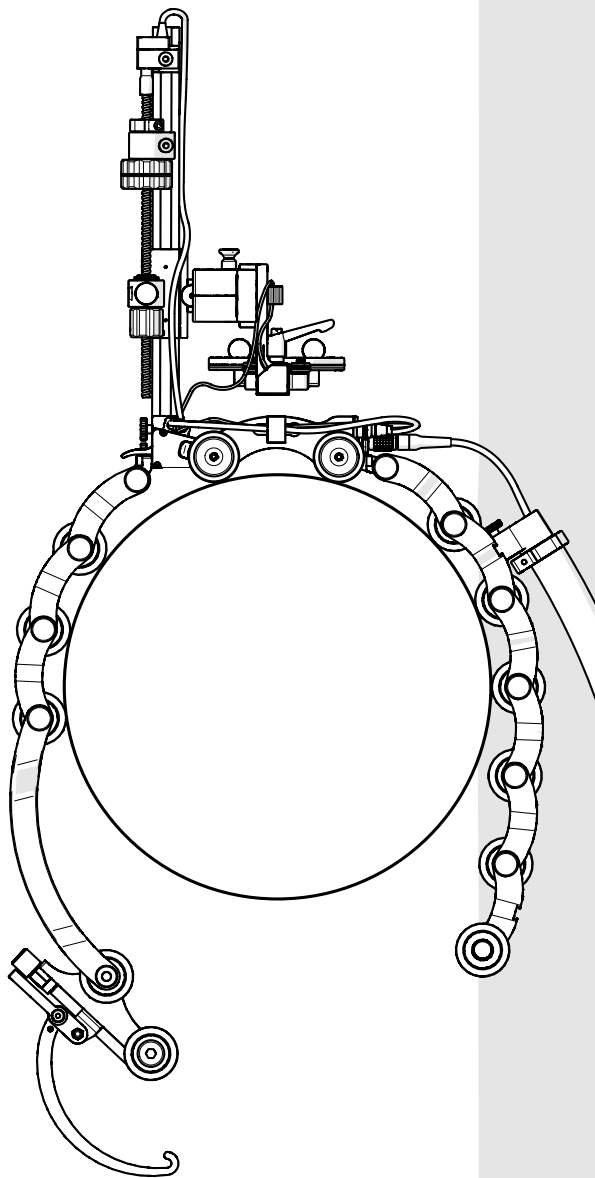

Fig. 97 - Place system on nozzle
5. Place the configured assembly around the nozzle to be inspected (*Fig. 97*).